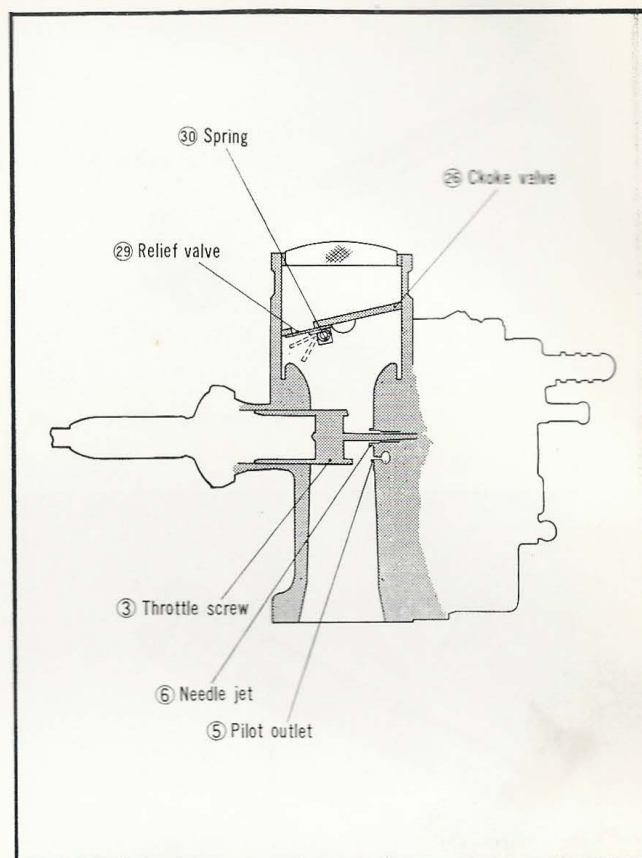

Figure 3-95. Carburetor cross sectional diagram
However, depending upon its usage, it may result in engine stalling or flooding. To counter this situation, a relief valve (29) is incorporated in the choke valve (26) to open or closes at a preset suction pressure, to produce a proper fuel air mixture for cold weather starting. It is therefore possible to close the choke valve completely during warm-up driving and then fully open the valve after warm-up. (Fig. 3-95)